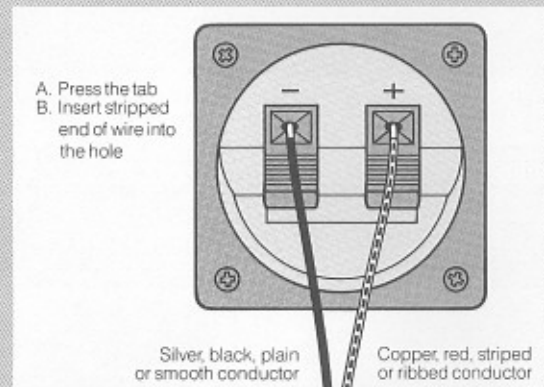

**Figure 2.** Connecting the speaker
- C. Connect the negative side of one wire to the terminal marked (-) on the left speaker. **Refer to Figure 2.** Connect the other negative end of the same (negative) wire to the corresponding negative terminal on the left channel of your receiver or amplifier. **Refer to Figure 3.**